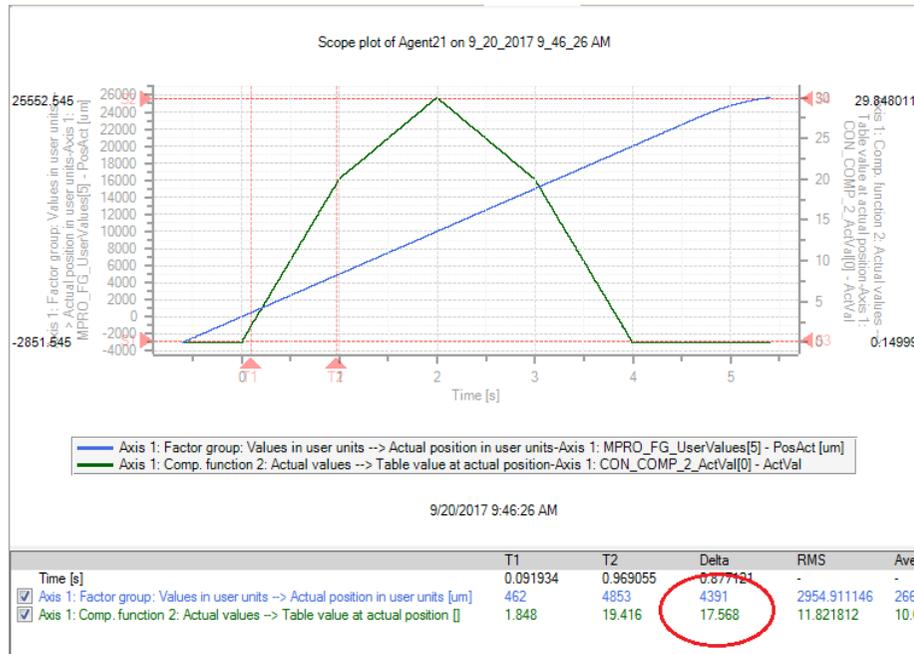

Fig. 8.42: Example scope view
- The position error compensation is intended for correcting small errors. It is only taken into account in the position control, but not in the feed forward control or speed control. The change in the compensation value must be significantly smaller in every section than the position difference (see Fig. 8.42: Example scope view, slope $\ll 1$), otherwise there will be a deviation of the position.